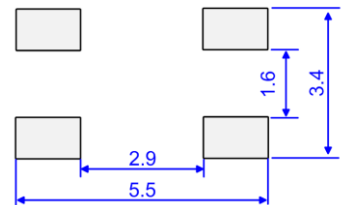

Fig.4-5
4.4 Recommended PCB pattern for reflow soldering: See Fig. 4-5.